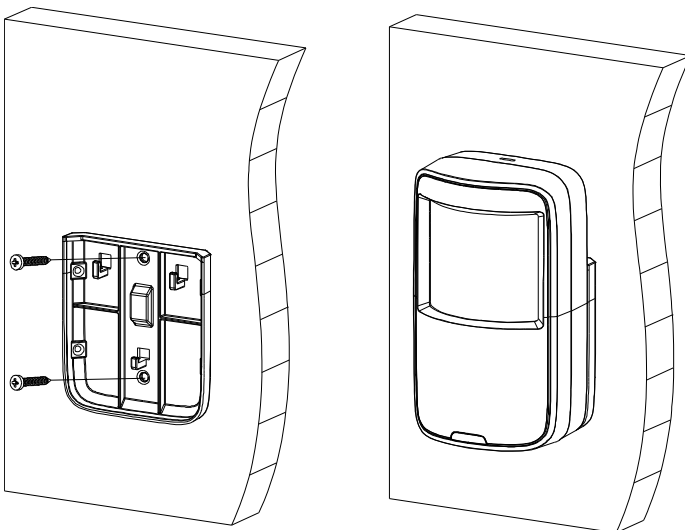

Figure 4-4
Step 2. Drill through the fixing hole on installation bracket (for wall mount figure 4-4 or corner mount figure 4-5).
Step 3. For wall mount, installation bracket bottom is parallel to the wall. Fix it on wall with 2 screws via the hole on installation bracket, and hang device on hanger on installation bracket. See Figure 4-4.